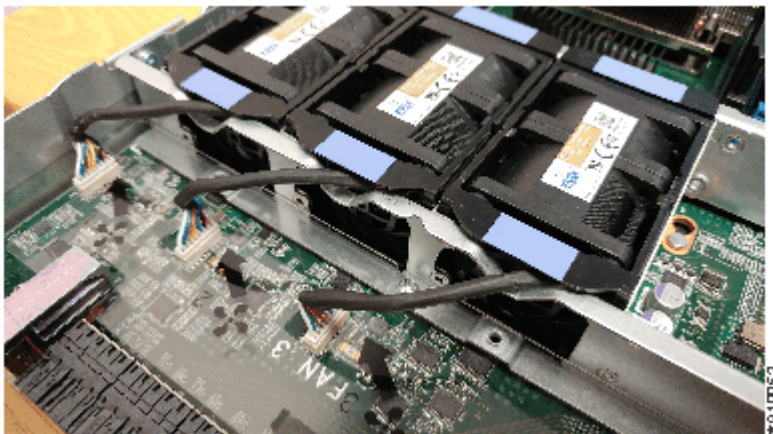

Figure 86. Aligning the cable connector
7. Install the replacement fan module into the vacant fan slot. The cable must face toward the canister front. Be careful to ensure the connecting cable passes over the air dam at the V-shaped indent, as shown in Figure 86 on page 137. Ensure that the cable is not caught under the fan module.